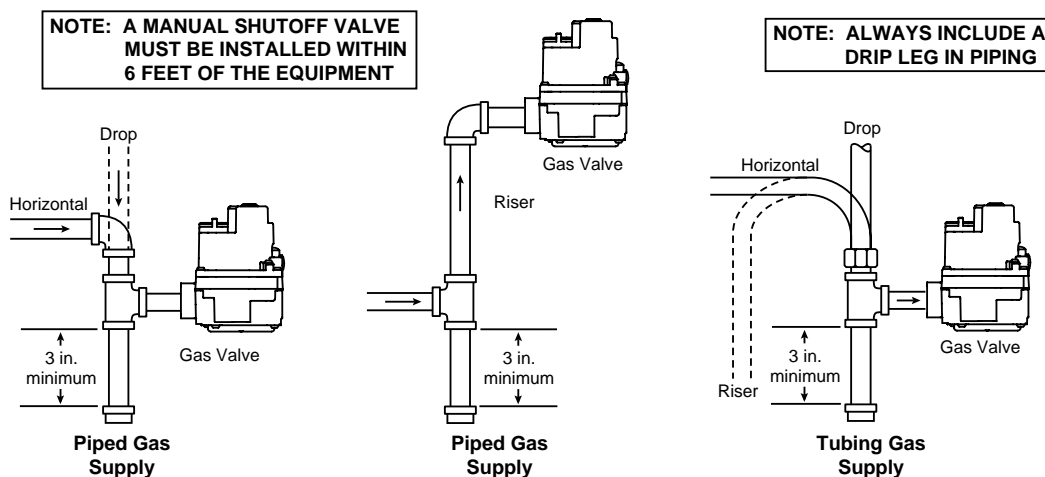

Figure 3. typical gas valve piping
5. Apply pipe joint compound (pipe dope) or teflon tape that is **approved for all gases, only to the male threads of the pipe joints**. **DO NOT** apply compound or teflon tape to the first two threads (see fig. 3 for typical piping connections).